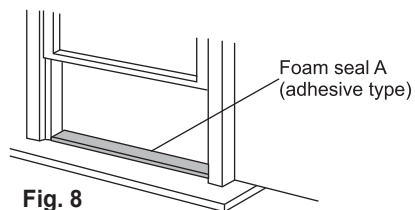

Fig. 8
1. Cut the foam seal (adhesive type) to the proper length and attach it to the window sill. See Fig. 8.